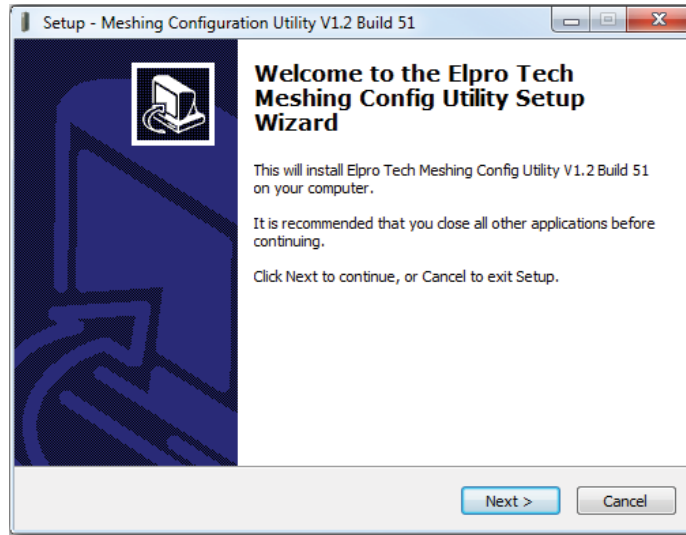

Figure 28 Installation Wizard
- Follow the on-screen instructions to install the software (see Figure 28).